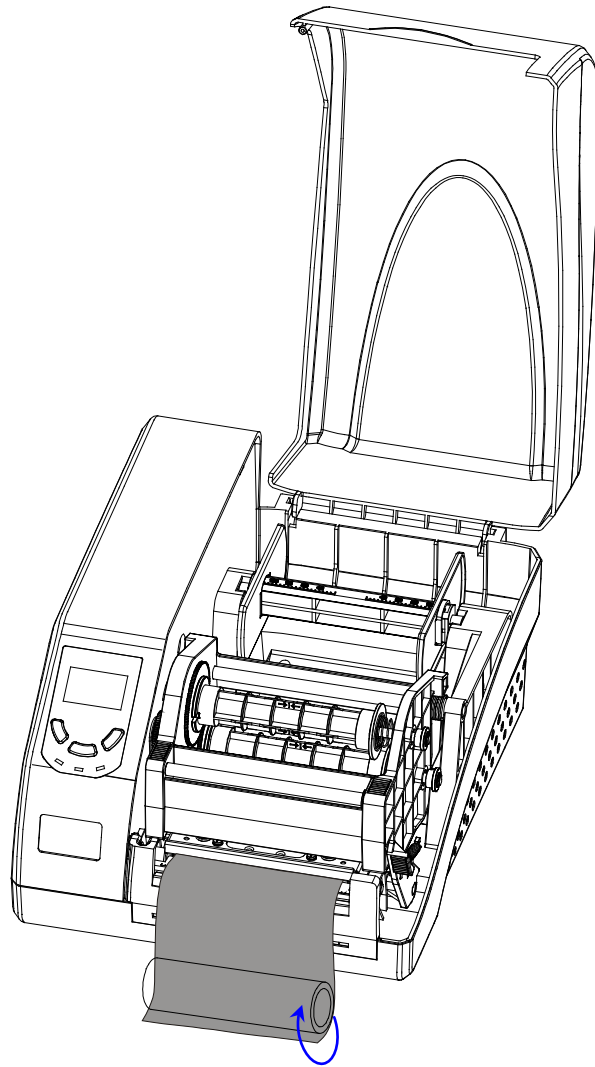

Figure 5-5
6. Wrap the end of the ribbon around the core (see Figure 5-5).